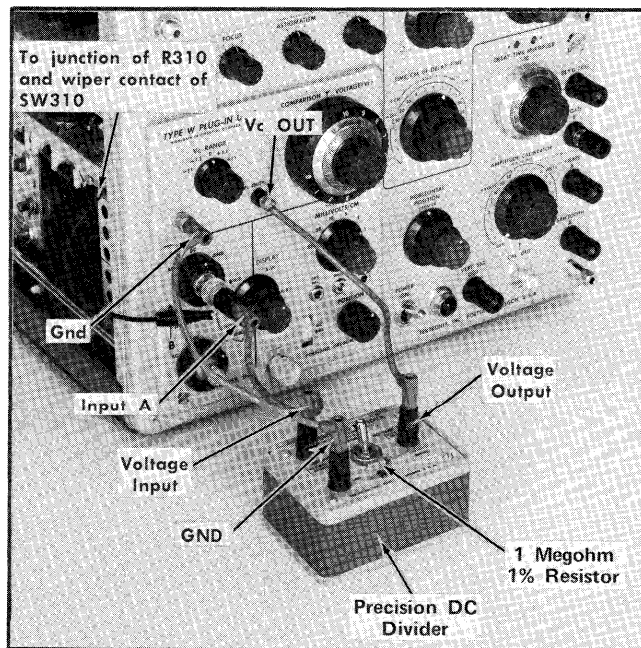

Fig. 5-6. Initial test equipment setup for step 20.
c. Connect a short jumper lead from the A input connector to the junction of R310 (V_c CAL) and the wiper contact of SW310 (see Fig. 5-1). Use a connector adapter on the A input connector. Fig. 5-6 shows the complete setup to use as a guide.
d. Connect a short jumper lead (item 15) from the A input connector to the Precision DC Divider Voltage Input connector (item 17).
d. Repeat steps 20-e through 20-j. (The divider voltage is now applied via the Vc OUTPUT connector to the A input grid side of the W Unit amplifier. Use Fig. 5-6 as a guide when making the connections.)